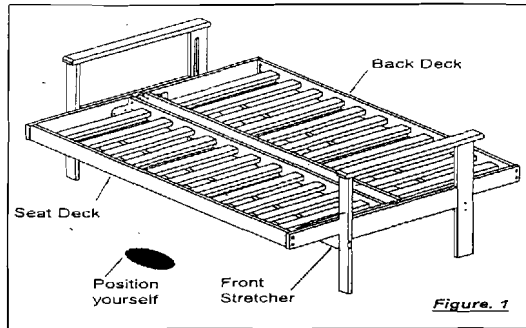

Figure 1
1. Position yourself in front of the seat deck. (figure 1)